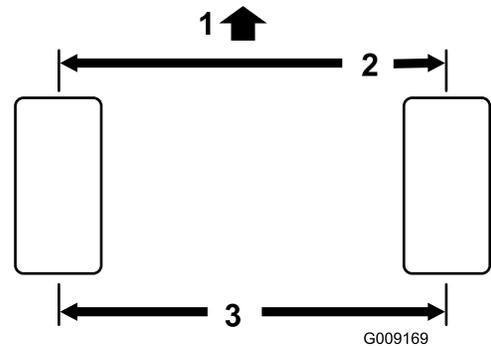

Figure 51
- Measure the center-to-center distance (at axle height) at the front and rear of the steering tires (Figure 51). The measurement must be within 0 ± 3 mm (0 ± 0.12 inch) at the front of the tire then at the rear of the tire. Rotate the tire 90 degrees and recheck the measurement.